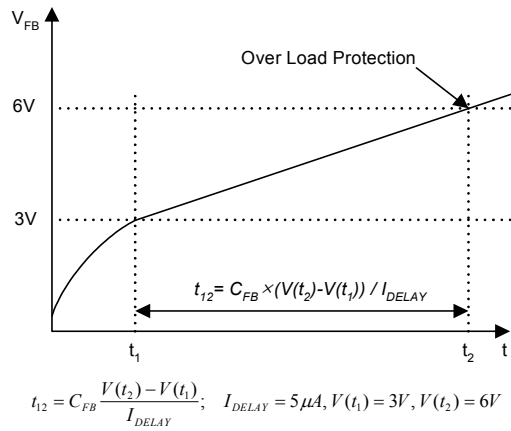

Figure 6. Over Load Protection (OLP)
4.1 Over Load Protection (OLP) : Overload is defined as the load current exceeding a pre-set level due to an unexpected event. In this situation, the protection circuit should be activated in order to protect the SMPS. However, even when the SMPS is operating normally, the over load protection (OLP) circuit can be activated during the load transition. In order to avoid this undesired operation, the OLP circuit is designed to be activated after a specified time to determine whether it is a transient situation or an overload situation. In conjunction with the Ipk current limit pin (if used) the current mode feedback path would limit the current in the Sense FET when the maximum PWM duty cycle is attained. If the output consumes more than this maximum power, the output voltage (V_o) decreases below its rating voltage. This reduces the current through the opto-coupler LED, which also reduces the opto-coupler transistor current, thus increasing the feedback voltage (VFB). If VFB exceeds 3V, the feedback input diode is blocked and the 5uA current source (IDE-LAY) starts to charge Cfb slowly up to Vcc. In this condition, VFB increases until it reaches 6V, when the switching operation is terminated as shown in Figure 6. The shutdown delay time is the time required to charge Cfb from 3V to 6V with 5uA current source.